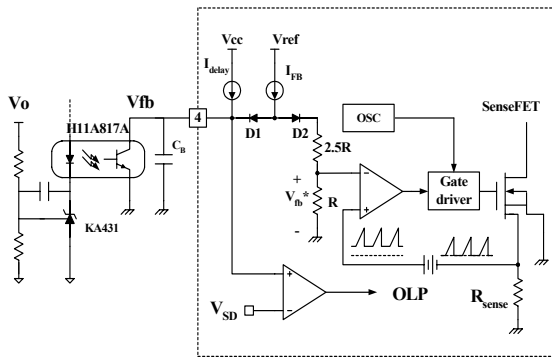

Figure 6. Pulse width modulation (PWM) circuit
**2. Feedback Control :** FS7M-series employs current mode control, as shown in Figure 6. An opto-coupler (such as the H11A817A) and shunt regulator (such as the KA431) are typically used to implement the feedback network. Comparing the feedback voltage with the voltage across the Rsense resistor plus an offset voltage makes it possible to control the switching duty cycle. When the reference pin voltage of the KA431 exceeds the internal reference voltage of 2.5V, the H11A817A LED current increases, thus pulling down the feedback voltage and reducing the duty cycle. This event typically happens when the input voltage is increased or the output load is decreased.
**2.1 Pulse-by-pulse current limit:** Because current mode control is employed, the peak current through the Sense FET is limited by the inverting input of PWM comparator ( $V_{fb}^*$ ) as shown in Figure 6. The feedback current ( $I_{FB}$ ) and internal resistors are designed so that the maximum cathode voltage of diode D2 is about 2.8V, which occurs when all  $I_{FB}$  flows through the internal resistors. Since D1 is blocked when the feedback voltage (Vfb) exceeds 2.8V, the maximum voltage of the cathode of D2 is clamped at this voltage, thus clamping  $V_{fb}^*$ . Therefore, the peak value of the current through the Sense FET is limited.